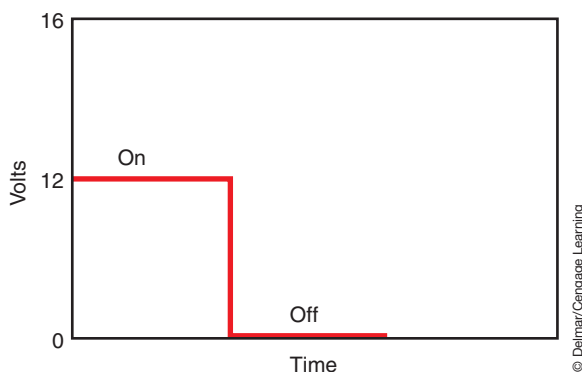

FIGURE 2-15 Direct current flow is in the same direction and remains constant on or off.
Direct current (DC) can only be produced by a chemical reaction (such as in a battery) and has a current that is the same throughout the circuit and flows in the same direction (Figure 2-15). Voltage and current are constant if the switch is turned on or off. Most of the electrically controlled units in the automobile require direct current.